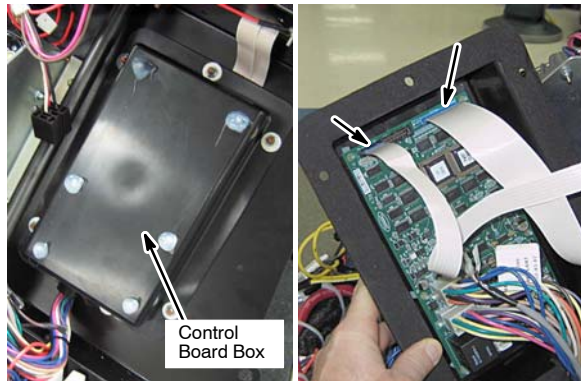

Fig. 12
1. Remove the control board box from panel and disconnect the white ribbons (Figure 12).